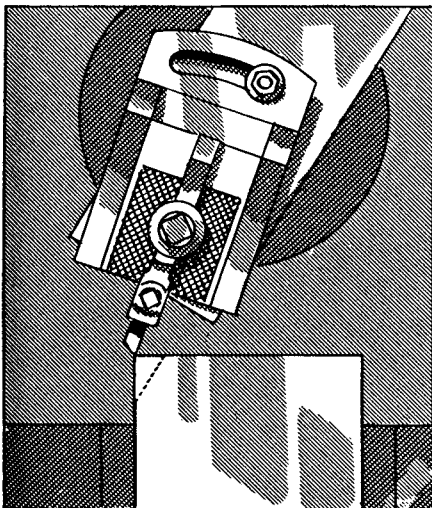

FIG. 419
5. Shift the position of the table until the corner of the work is directly below the moving tool (Fig. 419).